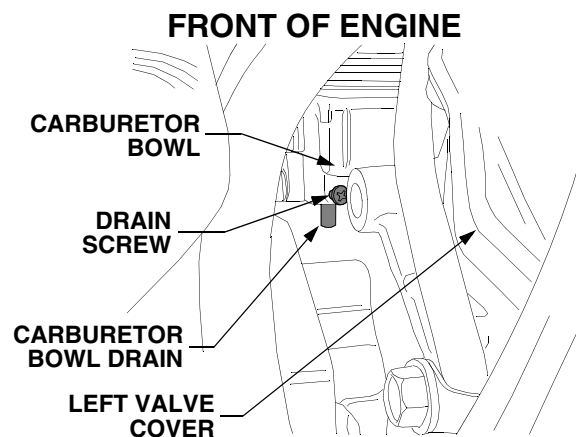

Figure 50
- Place a small container or rag beneath the carburetor bowl drain and loosen the drain screw to completely drain the fuel from the carburetor. See Figure 50.